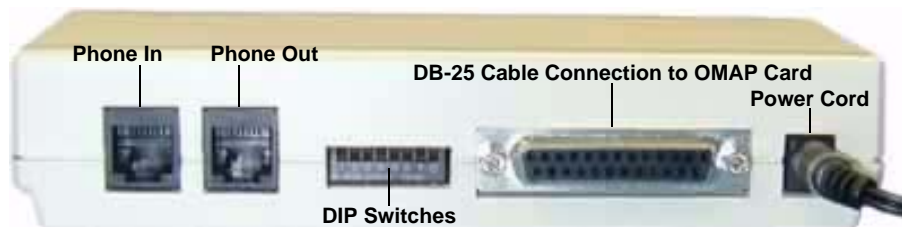

Figure 2-8 Remote Access Modem, Rear View
Place the modem, shown in Figure 2-8, used for remote access by SS8 Networks TAC on top of the Ethernet switch or the chassis in the rack. Refer to the Connecting the Modem section for the procedure to make the proper modem connections.
2. If you have not already done this, using the supplied RJ-11 to DB-25 cable, p/n 1810-0738-01, connect the RJ-11 end into COM1/3 located in the OMAP rear I/O card and the other end of the cable into the supplied modem (refer to Figure 2-8).
3. Plug in the telephone cables to the telephone in and telephone out receptacles (refer to Figure 2-8).
4. Ensure the power cord is securely fastened (refer to Figure 2-8).